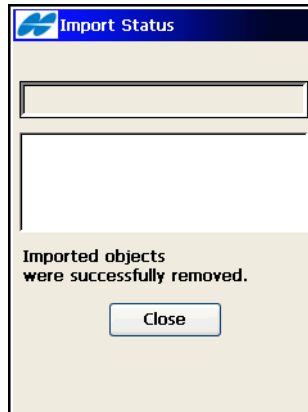

Figure 5-10. Import Status for Removed Objects
- ***Close*** – disables the import process and opens the ***Import Status*** screen to remove all the objects already imported (Figure 5-10).